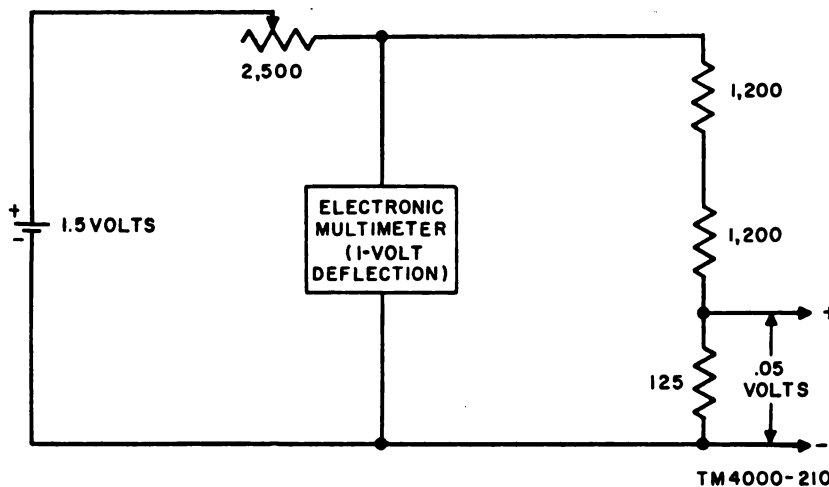

Figure 114. Test signal circuit diagram.
a. In the circuit of figure 112, the trouble could be isolated to either the ionization chamber or the remaining circuit by the test signal check. Construct the test signal circuit (fig. 114) and apply the signal to the grid circuit of the first stage. The point between batteries BT2 and
Note. If no test signal voltage is listed in the equipment manual, apply the test signal circuit (fig. 114) to a radiac set known to be operating properly and vary the 2,500-ohm potentiometer until the meter on the radiac set indicates full-scale deflection. Without changing the setting of the potentiometer, apply this test signal to the radiac set under repair.